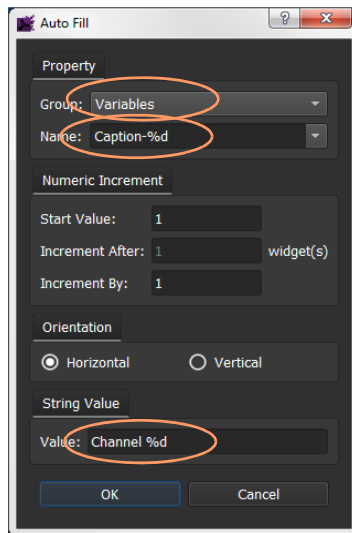

Fig. 3-38: Auto-Fill Dialog Settings
- 3 Select the 'Group' setting to be 'Variables' and set other dialog values to those shown in Figure 3-38.